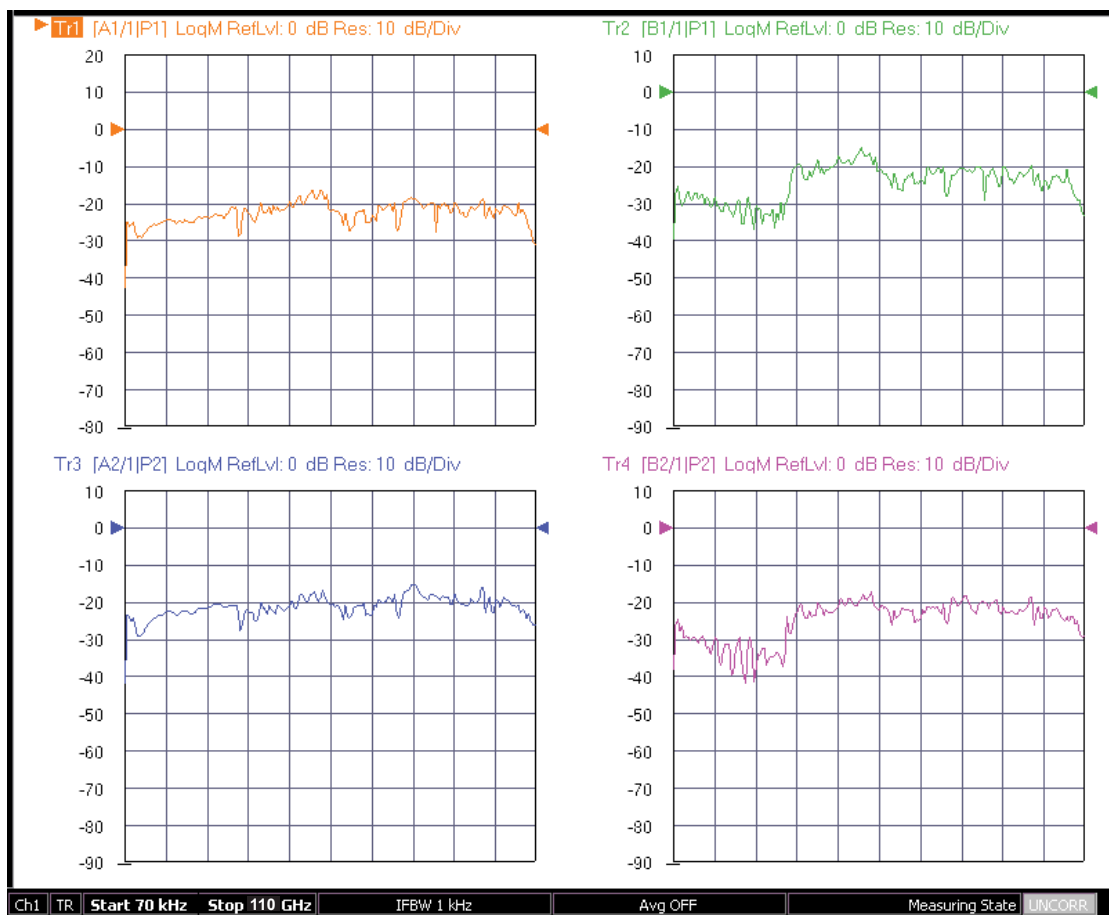

Figure 5-9. Typical VNA Four-Trace Display of Non-Ratioed Parameters for Initial Checkout
21. Connect **shorts** to both W1 connectors on the 3743E Modules, and ensure the resultant display looks similar to Figure 5-9 below.